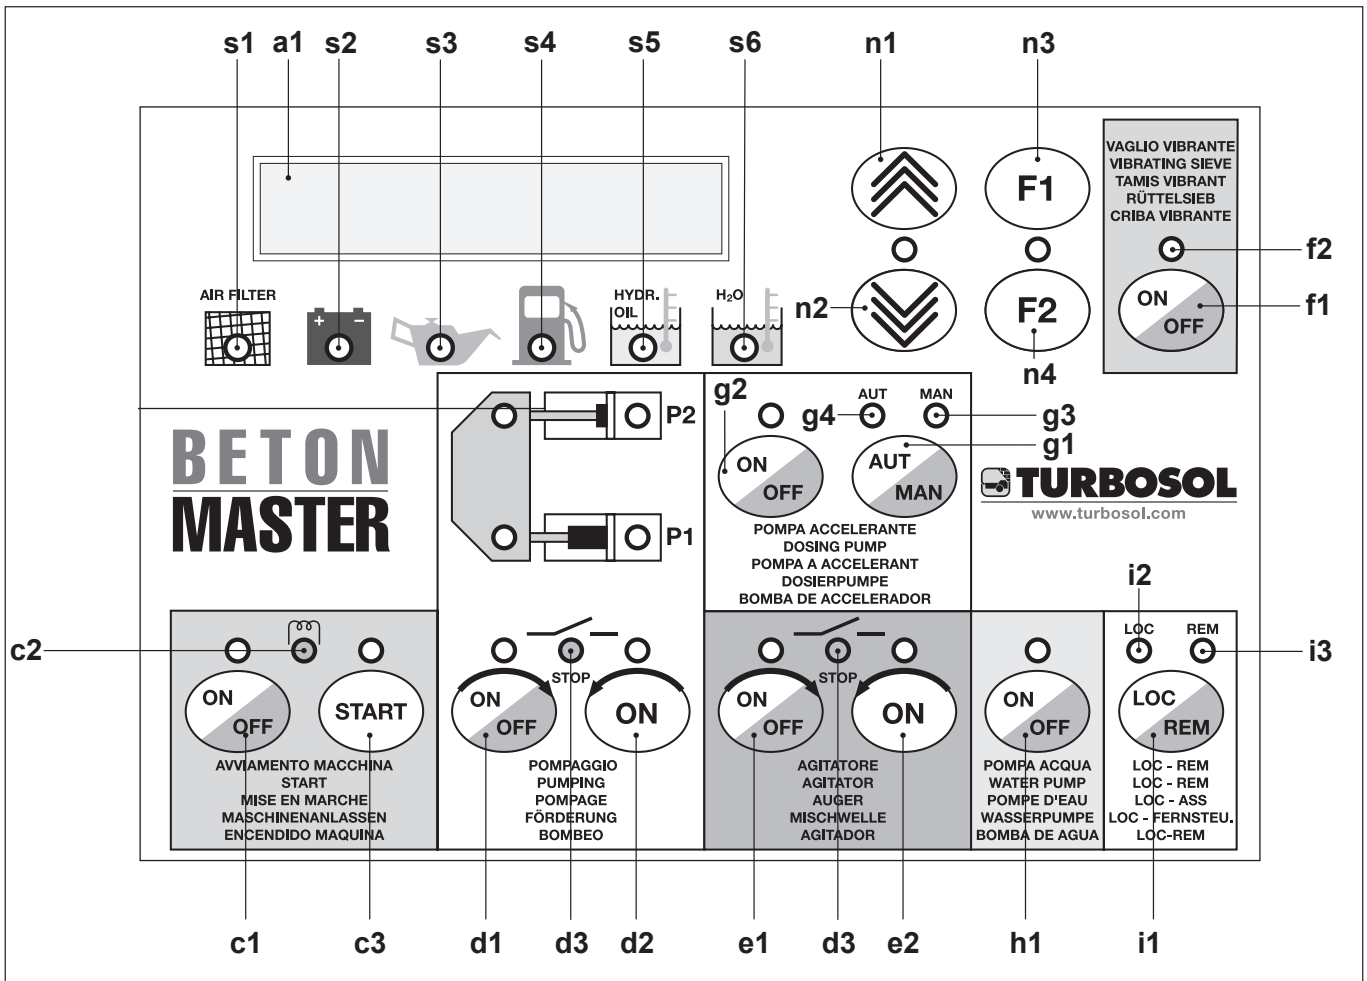

FIG. 35
- Depending on the situation, the display (FIG. 35-REF. r1) shows:
**- Air filter alarm (FIG. 35-REF. s1)**
**- Battery charge alarm (FIG. 35-REF. s2)**
**- Motor oil pressure alarm (FIG. 35-REF. s3)**
**- Diesel fuel level alarm (FIG. 35-REF. s4)**
**- Hydraulic oil temperature alarm (FIG. 35-REF. s5)**
**- Engine coolant temperature alarm (FIG. 35-REF. s6)**